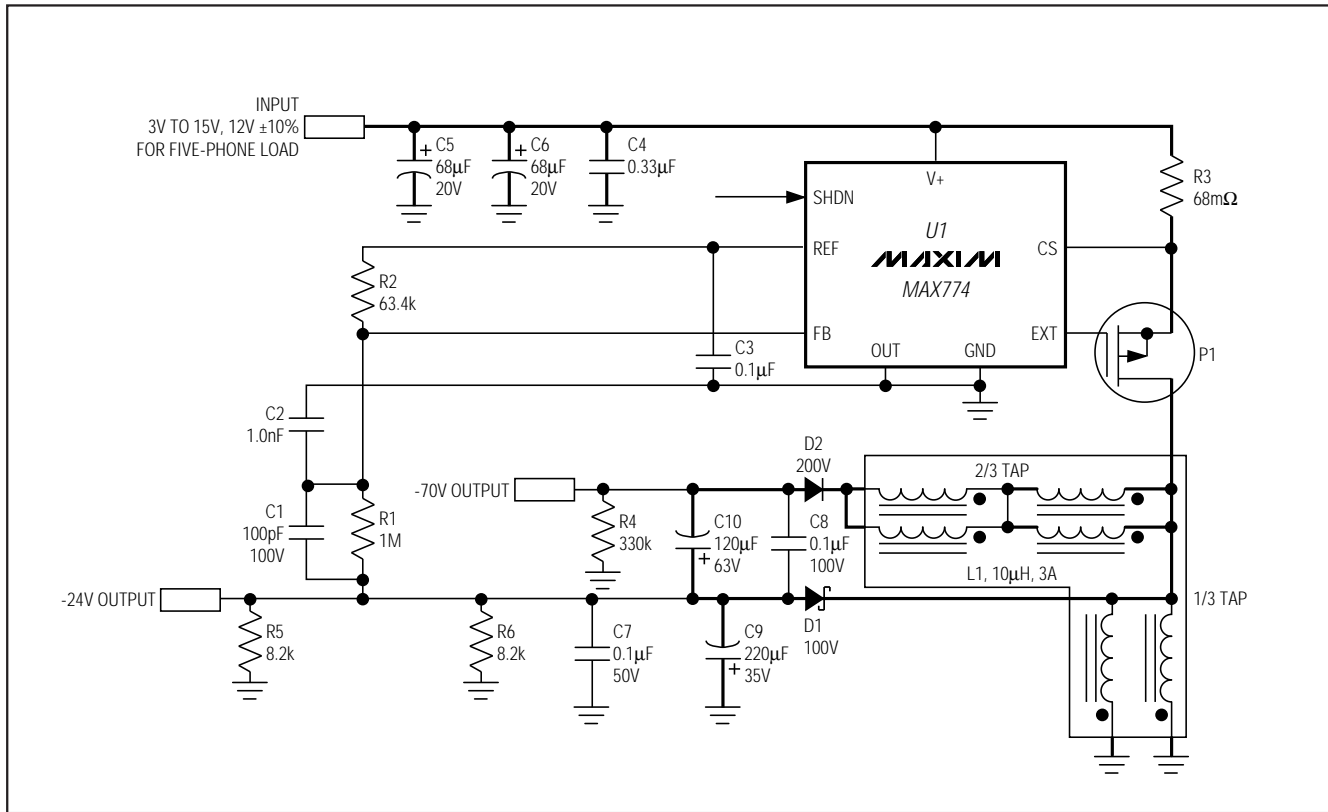

Figure 1. MAX774 IRG EV Kit Schematic
The EV kit schematic (Figure 1) and the MAX774 block diagram in the MAX774/MAX775/MAX776 data sheet show how the circuit works. When the -24V output drops out of regulation, the error comparator in the MAX774 initiates a switching cycle. The P-channel MOSFET (P1) turns on, allowing current to ramp up through the transformer's lower windings (between the 1/3 tap and ground) and store energy in a magnetic field. When the current through the sense resistor crosses the trip threshold ($210\text{mV} / 68\text{m}\Omega = 3.09\text{A}$), the MOSFET turns off and interrupts the current flow, causing the magnetic field in the transformer to collapse. The transformer forces current through the output diodes, transferring the stored energy to the output filter capacitors. The output filter capacitors smooth the power and voltage delivered to the load. The MAX774 waits until it senses the output dropping below the regulation trip point before initiating another cycle. The -24V output is precisely regulated by connecting a voltage divider, R1 and R2, as shown in Figure 1. The MAX774 regulates the FB pin, keeping it at 0V. The -70V output is regulated using the turns ratios between the -24V and -70V output.
Use preloading at the outputs to keep the -70V output in regulation. For designs servicing a five-ringer equivalent load, use the following preloads. For the off-hook case, only a couple hundred microamperes are necessary to hold down the -70V output. This can be achieved using either a 330k Ω resistor (R4, Figure 1) or zener diode (Figure 2b). For the on-hook case, draw approximately 5.5mA from the -24V output to hold up the -70V output. This 5.5mA can be drawn continuously using two 8.2k Ω resistors (R5 and R6), or intermittently using a transistor to gate the preload while the phone is ringing (Figure 2c). The transistor can be controlled using a microcontroller input/output line, or it can be decoded from the control signals of the AM79R79.
- 3) Make high-power traces, highlighted in the EV kit schematic (Figure 1), as short and as wide as possible. Make the supply-current loop (formed by C5, C6, R3, P1, and L1) and output current loops (L1, D1, and C9 for the -24V output; L1, D2, C9, and C10 for the -70V output) as tight as possible to reduce radiated noise.